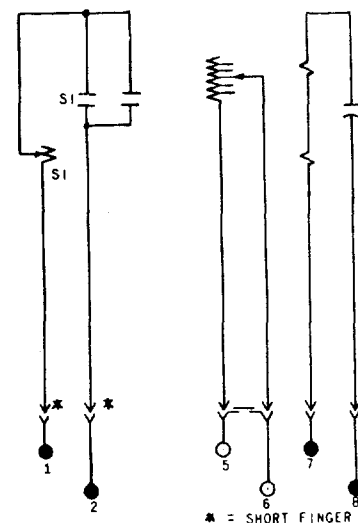
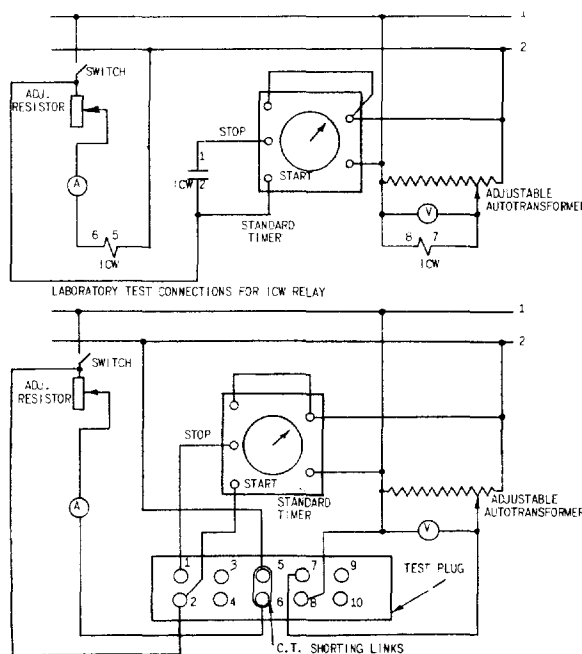
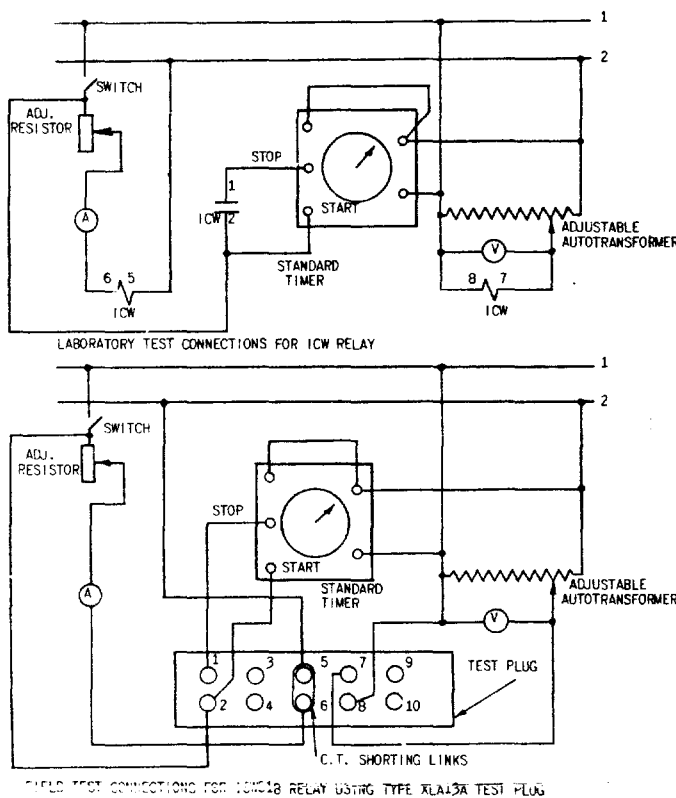

Fig. 2 Internal Connections (Front View) of ICW51B Relay (362A631-2)
Fig. 4 Field Test Connections (0165A7511-0)
Fig. 7 Laboratory Test Connections (0165A7511-0)
Internal connections for the ICW51B are shown in Fig. 2.
Every circuit in the drawout case has an auxiliary brush as shown in Fig. 3 to provide adequate overlap when the connecting plug is withdrawn or inserted. Some circuits are equipped with shorting bars (see Fig. 2) and on these circuits it is especially important that the auxiliary brush makes contact as indicated in Fig. 3 with adequate pressure to prevent the opening of C.T. secondary circuits or important interlock circuits.
Check that the shorting bars are in the correct locations as indicated in Fig. 2 and that the auxiliary brushes are properly adjusted.
1. Pickup - Connect the polarizing and operating coil circuits of the relay as shown in Fig. 7. With rated voltage applied to the potential circuit, and the tap screw in the minimum tap position, the current required to just close the left hand contact should be within ± 5 percent of the value obtained from the following equation:
2. Pickup Time - Using the test connections of Fig. 7, check operating time from the No. 5 time dial setting with the tap screw in the minimum tap position. Note that the two clamping screws must be loosened before the time dial can be turned. With an operating current of five times the pickup current, determined in equation (1) above, and rated voltage on studs 7 and 8, the pickup time should be
1. Pickup - Wattmetric unit pickup in terms of single phase watts can be set by inserting the tap screw in the desired position. If the pickup adjustment is being made on a relay already in service, be sure to remove the relay connection plug before changing the tap screw position. The tap screw must be securely tightened if its position has been changed. The actual pickup then should be checked using the test connections of Fig. 4, which shows test plug connections for testing the relay from the front of the panel.
2. Time Setting - The operating time at a given multiple of pickup watts is determined by the setting of the time dial. If the required operating time is known, the necessary time dial setting can be determined from the pickup time curves in Fig. 2 and the dial set at the required position. Note that before
the time dial setting can be changed, the two locking screws projecting through the shelf on the die-cast frame must be loosened. When thus adjusted the relay will have an operating time accuracy of ± 8 percent of the value shown in Fig. 2. It is suggested that after the time dial has been set in accordance with the pickup time curves, the actual operating time should be checked using the test connections in Fig. 4.
Connect the relay as shown in Fig. 4. Preheat the relay by applying rated voltage to the potential circuit for 15 minutes. If the relay was continuously energized prior to this test, the preheat time can of course be omitted. With rated voltage applied to the potential polarizing circuit check the pickup current. This should be within ± 3 percent of the corresponding reading recorded during **INSTALLATION**.
Using the connections of Fig. 4 make a spot check of the pickup time. This check should be made at three points on the time characteristic, say at 3, 5 and 10 times pickup. The recorded times should be within ± 3 percent of the times recorded for the same pickup multiples during **INSTALLATION**.
1. Pickup Adjustment - If it is necessary to readjust pickup or if a pickup point is desired which falls between tap positions, the following procedure is recommended. Connect the relay as shown in Fig. 7 if the test is being made in the laboratory, or as in Fig. 4 if the relay is being tested in position on the panel. Determine the pickup current corresponding to the desired tap setting or intermediate pickup watts from the following equation:
4. Pickup Time - If pickup time is found to be outside the limits mentioned in ACCEPTANCE TESTS and PERIODIC CHECKS it can be restored by changing the position of the drag magnet on its supporting shelf. Using the test diagram of Fig. 4,